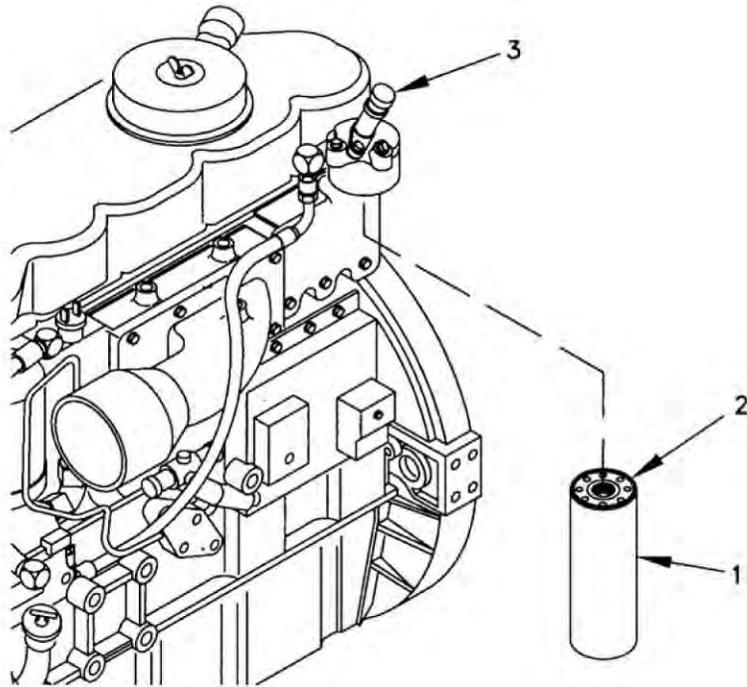

Figure 1. Fuel Filter.
1. Clean area where seal (Figure 1, Item 2) will mate with engine.
2. Apply light coat of fuel to seal (Figure 1, Item 2).
3. Install fuel filter (Figure 1, Item 1) by hand. Turn  $\frac{3}{4}$  additional turn after seal (Figure 1, Item 2) contacts base.
7. Operate fuel priming pump (Figure 1, Item 3) until strong pressure is felt.